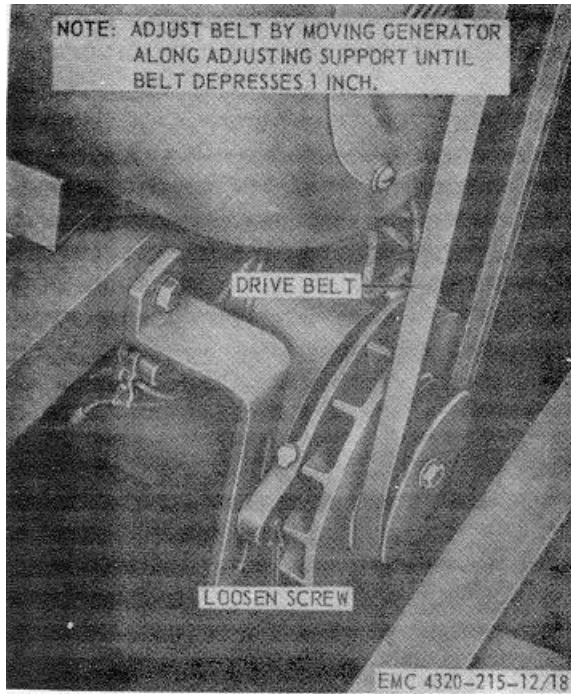

Figure 18. Generator drive belt, adjustment, removal, and installation.
b. Adjust, remove, and install the generator drive belt as shown by figure 18.